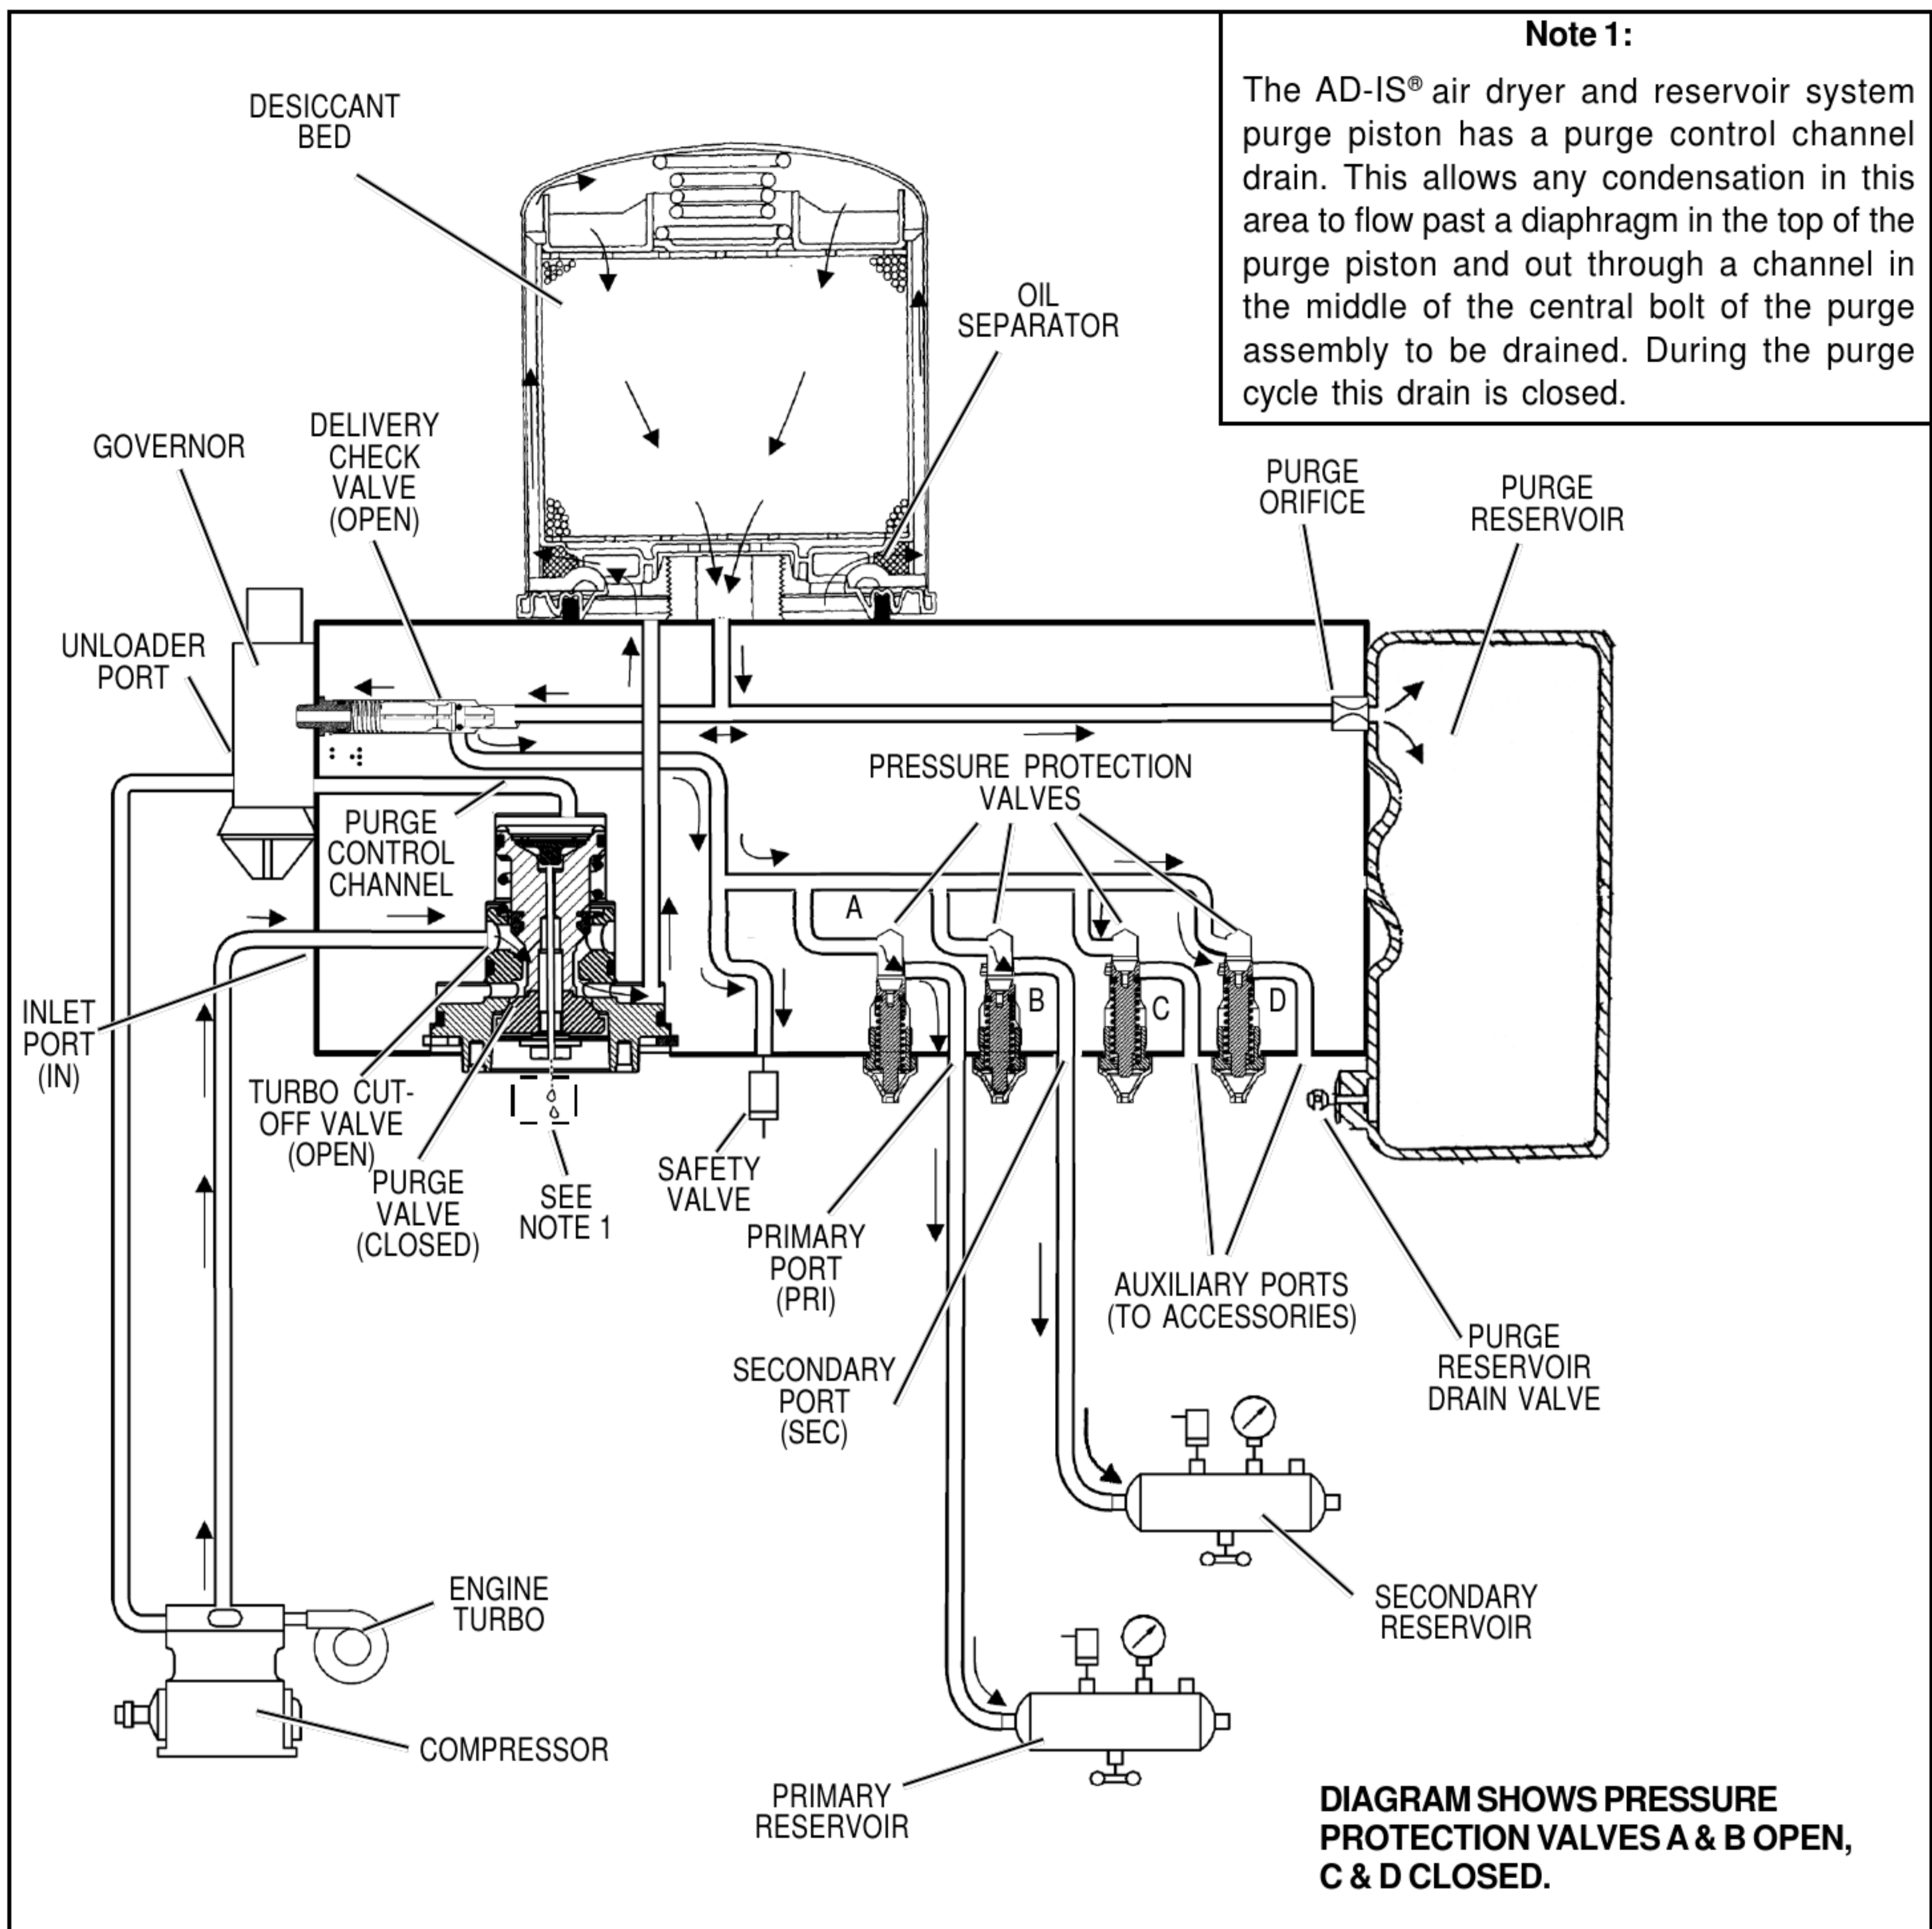

FIGURE 2 - AD-IS® AIR DRYER AND RESERVOIR SYSTEM CHARGE CYCLE
**AD-IS® AIR DRYER AND RESERVOIR SYSTEM OPERATION: GENERAL (Refer to Figure 2)**
**CHARGE CYCLE (Refer to Figure 2)**